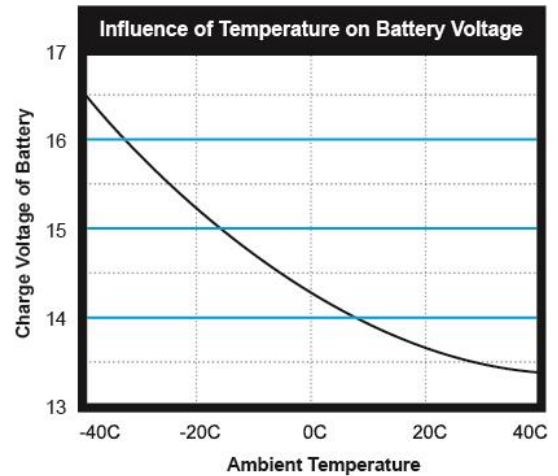

Figure 4- Influence of Temperature on Battery Voltage
- Battery voltage also fluctuates with ambient temperature. Typical lead acid batteries will change their voltage approximately 3 volts when temperatures fluctuate from -40°F (-40°C) to 104°F (40°C). Variations in day to night of 18°F (10°C) can result in swings of 3% in the battery's voltage. (Figure 4)